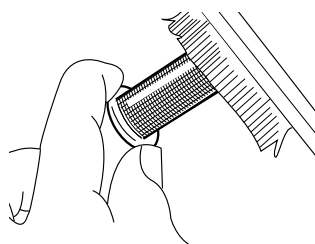

Fig.20
1. Using a Phillips-head screwdriver, remove the spark arrester screw as shown in Fig.20.
2. Use brush to remove carbon deposits from the spark arrester screen as shown in Fig.20. Inspect the spark arrester screen for holes or tears. Replace the spark arrester if necessary.